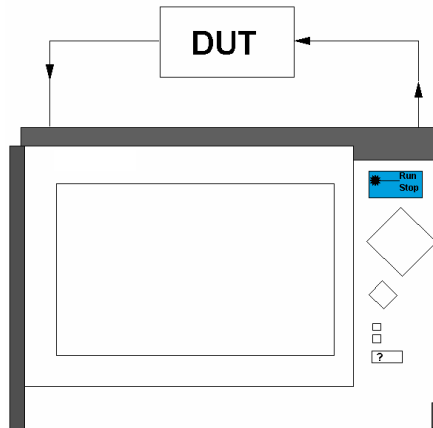

Figure 31 Fiber setups for performing an Insertion Loss measurement
| Attach fiber | 5 | Attach output connectors to the module and the power meter submodule. Connect the module and submodule with a fiber (Figure 31, first picture). |
- 10 Insert the Device Under Test in the link between the Source and the Power Meter (Figure 31, second picture).